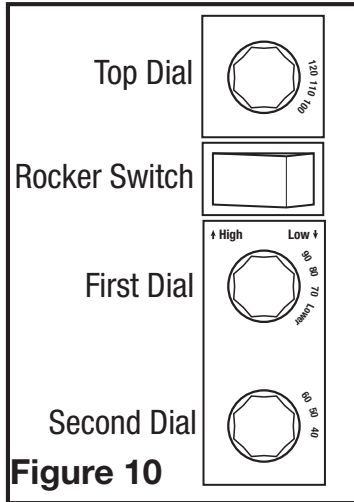

Figure 10
- For setting of 40 CFM to 60 CFM:** Place the rocker switch in the "Low" position and the first dial in the "Lower" position then set the second dial to the required CFM (**Figure 10**).
- For settings of 70 CFM to 90 CFM:** Place the rocker switch in the "Low" position and set the first dial to the required CFM (**Figure 10**).
- For settings of 100 CFM to 120 CFM:** Place the rocker switch in the "High" position and set the top dial to the required CFM (**Figure 10**).